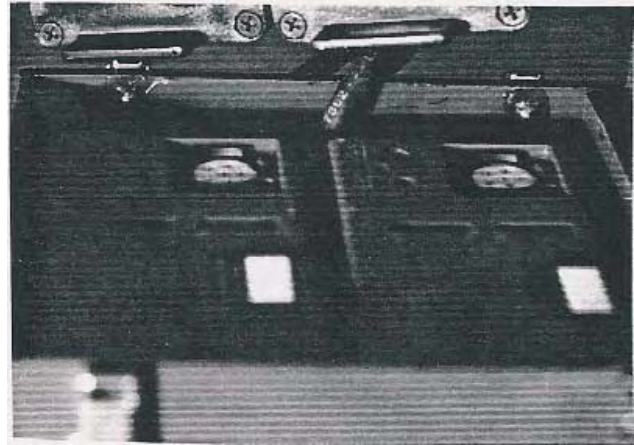

Figure 15. MCH-100 Battery Installation
a. Install two batteries into the foam slots provided inside the power pack. The connector plug on both batteries must be on the top. Figure 15.